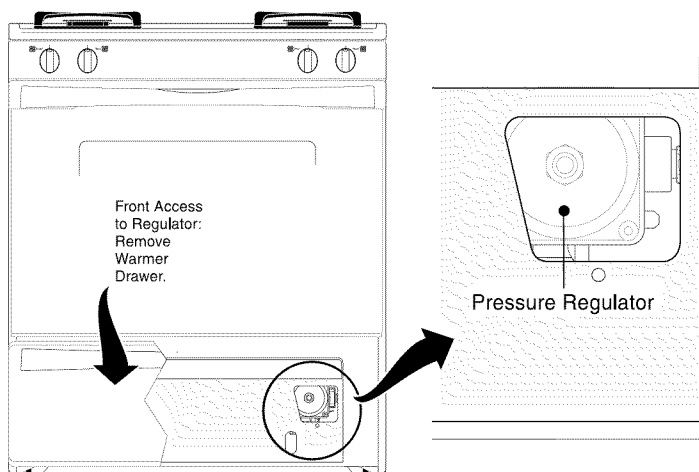

Fig. 2
- Pull the Warmer Drawer away from the range (See Fig. 2).